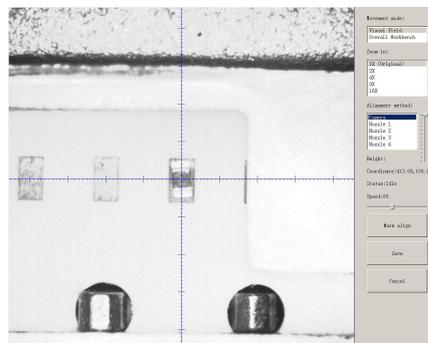

Fig.5-2
① Pick position X/Y: First have to lock the position of component on the feeder (See fig.5-2), once saved the modification, the XY date will automatically change to the ones after alignment.
② Pickup Angle: The initial default angle is 90 degrees, support to do modifying the value in order to change the mounting angels for wholly feeder if needed.
③ Footprint: Select corresponding footprint, when use the function "Vision Alignment", will refer to the values in date base.
④ Placement speed: Control the placement speed for the feeder by adjust the speed values.
⑤ Vision Alignment: Choose corresponding alignment method under this item.
⑥ Pick height: Control the pick height by dragging the sideward slider.